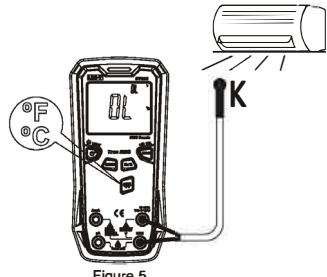

Figure 5
7. Temperature Measurement (Figure 5)